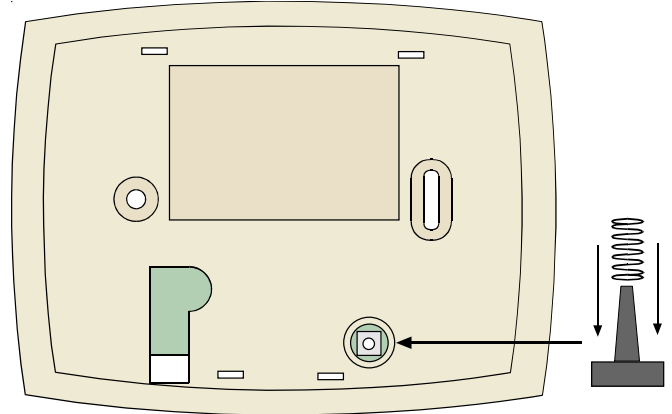

Figure 4: Installing the Tamper Spring
- Place the spring from the hardware packet over the shaft of the tamper switch located on the back of the receiver (see *Figure 4*).